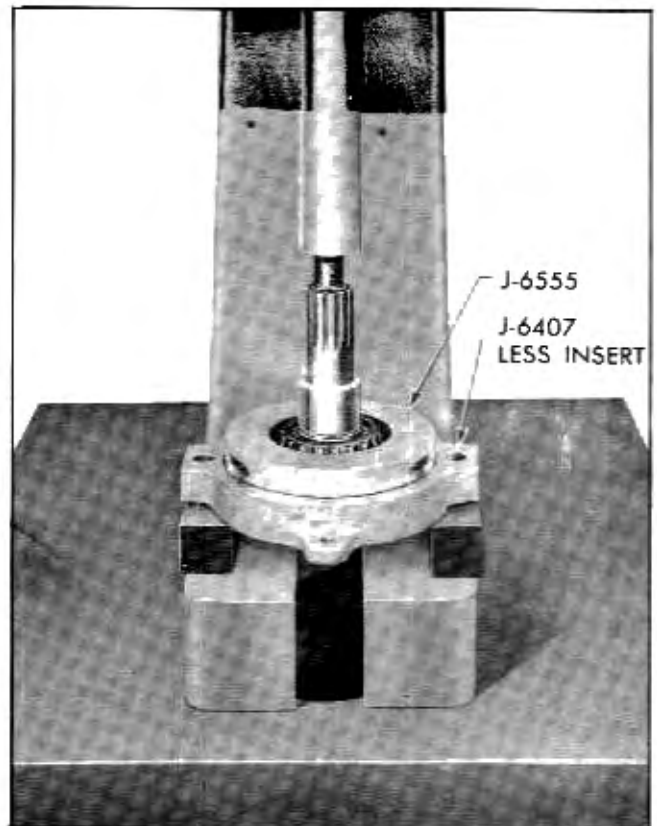

Fig. 4-30 Removing Bearing With Remover J-6555 and Press Plate J-6407 Less Insert
13. To remove pinion rear bearing inner race use bearing remover J-6555 and press plate holder J-6407 less insert between bearing and pinion head (Fig. 4-30). Press pinion from bearing. **NOTE:** Flange sides of press plate should be placed against bearing; concave sides. Remove adjusting shims from pinion.